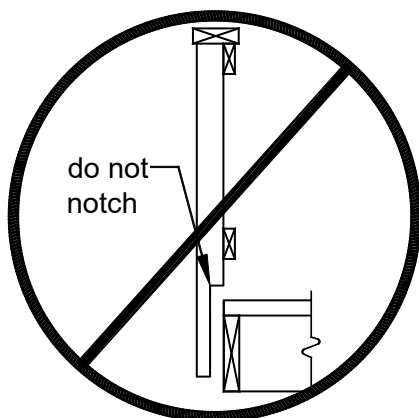

FIGURE 36: POST NOTCHES PROHIBITED
- Notching guard posts, as shown in FIGURE 36, is prohibited.